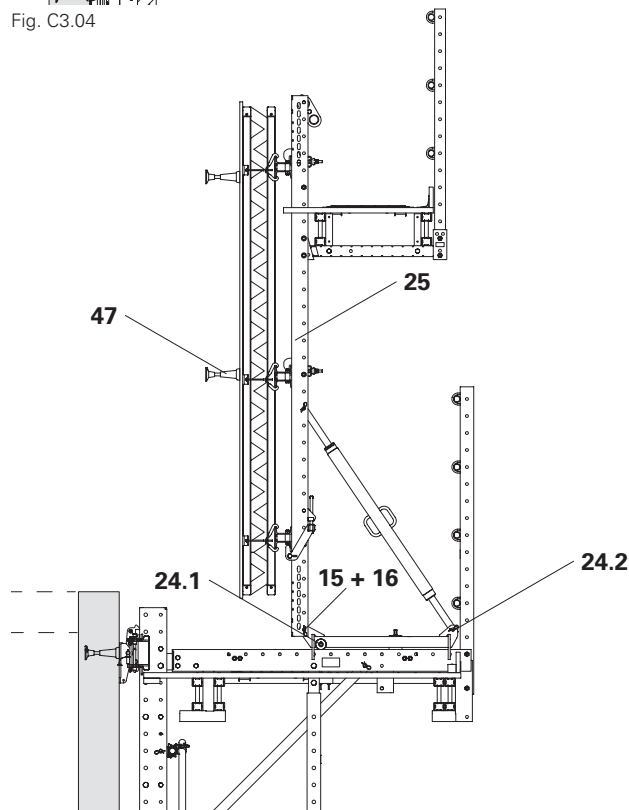

Fig. C3.05
4. Fit the strongback (25) onto the carriage (24.1) with 1 filler pin  $\varnothing$  21 x 120 (15) and cotter pin 4/1 (16). The crane continues to carry the load.
7. Fit the leading tie (47). (Fig. C3.05)